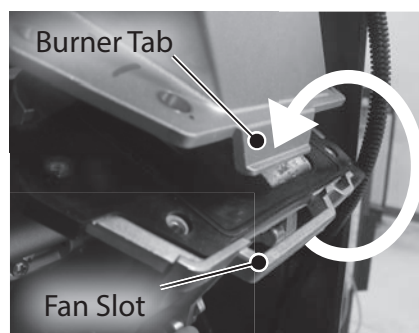

Figure 126 - Burner tab and fan slot
**NOTICE:** Confirm the burner assembly tab engages the slot on the fan as shown in Figure 126.